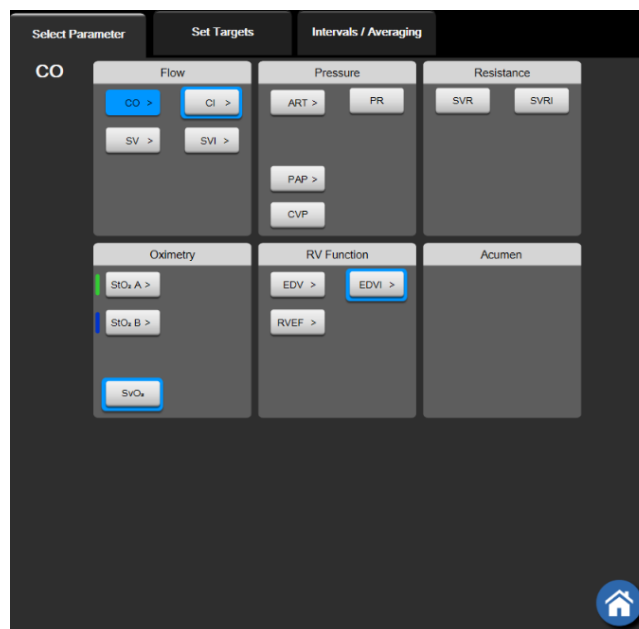

Figure 5-4: Example of key parameter selection tile configuration menu
2. The tile configuration menu will show the selected parameter highlighted in color and other parameters currently being displayed outlined in color. Available parameters appear on the screen without highlights. Figure 5-4 on page 91 shows the parameter selection tab of the tile configuration menu that will appear while selecting continuous parameters and monitoring with the HemoSphere Swan-Ganz module. The appearance of this window while monitoring with other HemoSphere modules or cables varies from what is shown in Figure 5-4 on page 91.
Parameters are organized into categories. The categories available are based on the current monitoring mode. Categories, listed below, are grouped together on the parameter selection configuration menu. See Figure 5-4 on page 91.